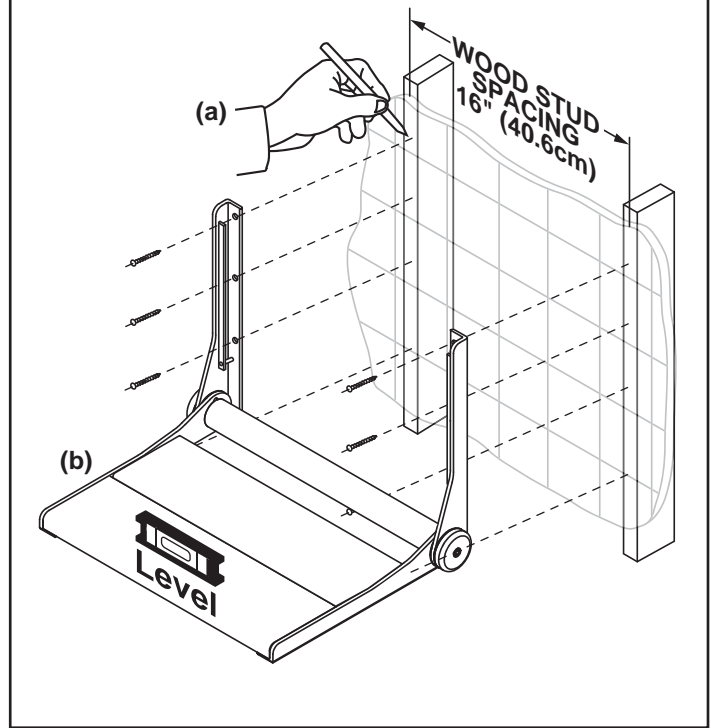

Figure 2.
**A2.** Notch the tile accurately with a center punch as shown in **Figure 2**. **NOTE:** A light tap is all that is required for punch to make notch.
3. Fabricate a support frame structure from suitable wood pieces as shown in **Figure 2**. Support frame width (D) should fit snugly within wall studs. Support frame height (E) should be from 24-32" (61-81cm) high or more, depending on material and stiffness of wall studs. Locate top cross member (F) to position in line with top hole on the wall bracket when seat is at install height (H). Lower cross member (G) should be spaced at  $C = 14.125"$  (37.465cm) center to center from top cross member (see Page 4 for dimensions of 2 center cross members). Use a generous quantity of wood screws and glue to hold the support frame structure together as shown. See alternative to support frame as shown in **Figure 3**.